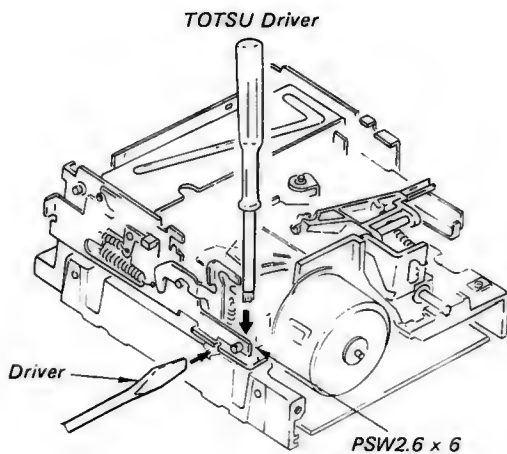

Fig. 5-4 (b) TRK 00 Sensor Adjustment
- c. Turn the rotary knob counterclockwise while stopping and starting at each clicking point until the CAT'S EYE PATTERN signal appears. Turning the stepping motor with the geared driver within the range that the screw fastening the stepping motor does not drop from the stepping motor flange, set the amplitude ratio of the peak signals on the CAT'S EYE PATTERN signal to the value specified in SECTION 3-3-1 NORMAL OPERATION procedure TRACK POSITIONING. (Refer to Fig. 5-4 (a))
- d. Fasten the upper side screw (PSW2.6x6) and then apply nut lock paint to upper side screw. (Refer to Fig. 5-4 (b))
- b. Adjust TRK 00 sensor board so that DC level of CN107-5 is 3.5 - 4.5V. (Refer to Fig. 5-4 (b))
- c. Move head onto TRK 00 and check that DC level of CN107-5 is less than 0.5V. (Refer to Fig. 5-4 (b))